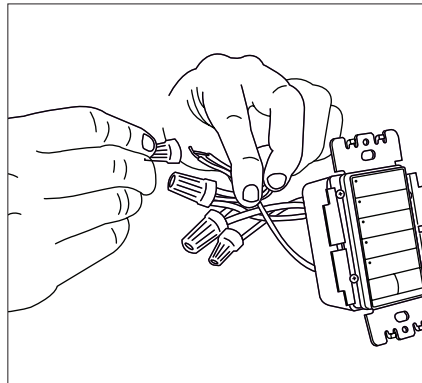

fig. 11
4. Using the provided wire nuts, attach each X2 lead wire to the corresponding conductor. Black-Line, White-Neutral, Green-Ground, Red-Dimmed Line (see figures 11 & 12).